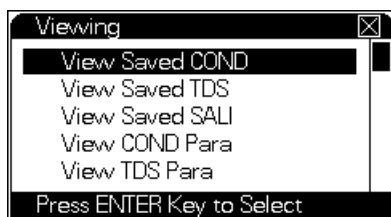

Figure 24 View Data
- 2 Navigate to the type of data to view and press [**Enter**]. See Figure 24.